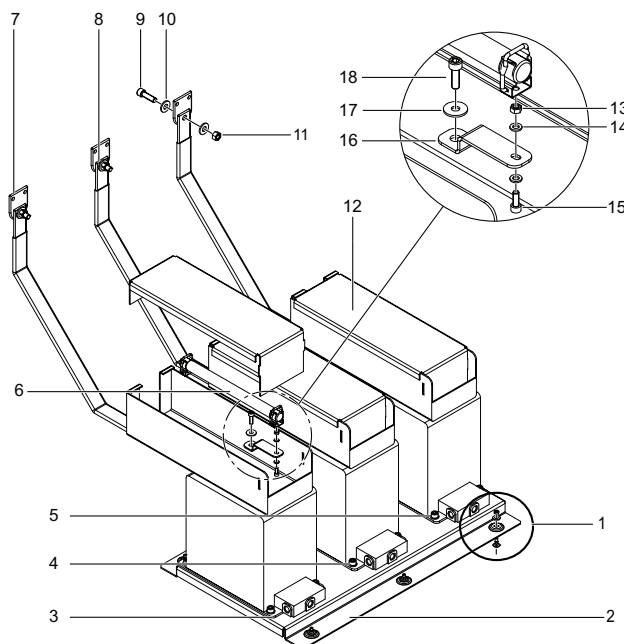

Figure 69
1. Install the VT mounting plate (2) to the cubicle with hardware (1) (Figure 69).
2. Install the VT (3) to the VT mounting plate (2).
3. Insert the washer (5) and screws (4) in the mounting holes at each corner of the VT. Apply the torque as per ST0171.
4. Install the fuse connection copper bar (16) to the VT (5) with washer (17) and screw (18).
5. Install the safety locks to the fuse connection copper bar (16) and the fixed VT connection copper bar (8) with screw (15), and nut (13) along with washers (14).
6. Attach the fuse (6) to the safety lock by sliding the safety lock into position.
7. Attach the insulation cover (12).
8. Install the fixed VT connection copper bar (8) to the CT-VT connector (7).
9. Insert screw (9), and nut (11) along with washers (10).